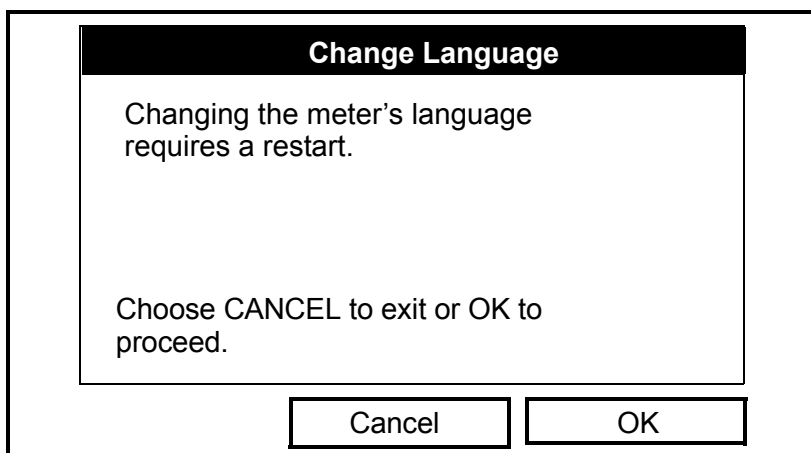

Figure 3-16: Change Language Confirmation Window
5. Changing the language requires restarting the PT878. When a window like the one in Figure 3-16 below appears, press [F2] to cancel the change or [F3] to confirm the change.